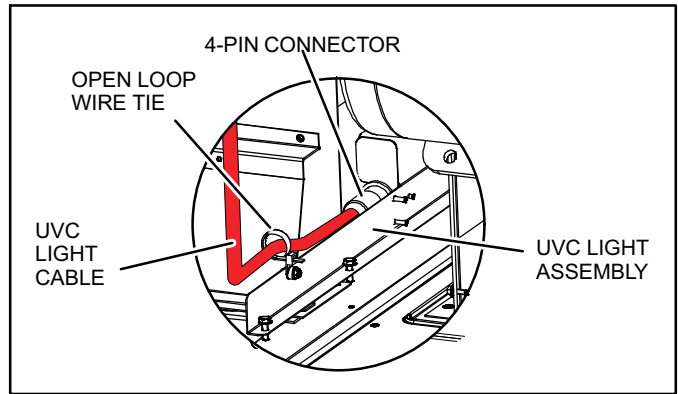

Figure 10. Installing Lamp Cable
1. Run the UVC lamp cable through the open loop of wire tie attached to the UVC assembly (see figure 10).